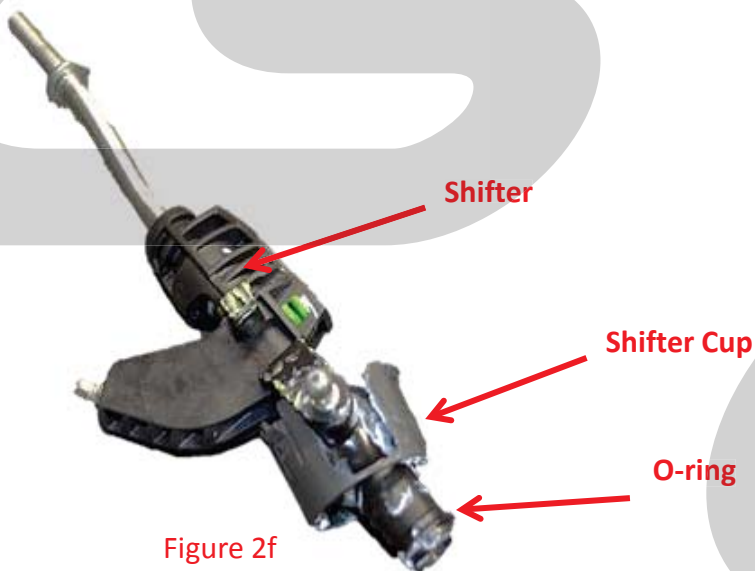

Figure 2f
- g) **Remove the shifter cup and O-ring from the factory shifter** (Figure 2f).
g) Remove the shifter cup and O-ring from the factory shifter (Figure 2f).